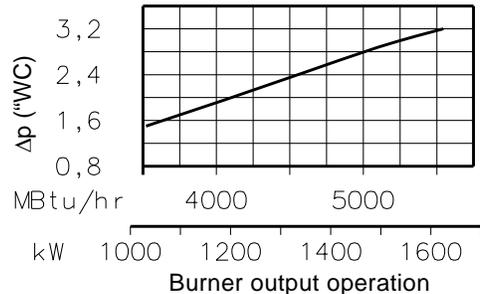

Fig. 22
The diagram (Fig. 22) show minimum load losses at combustion head depending on the maximum burner output operation with natural gas (G 20).
- find, in the diagram (Fig. 22) the pressure value closest to the result you want;
- read, on the diagram (Fig. 22), the pressure test point 1) (Fig. 21);